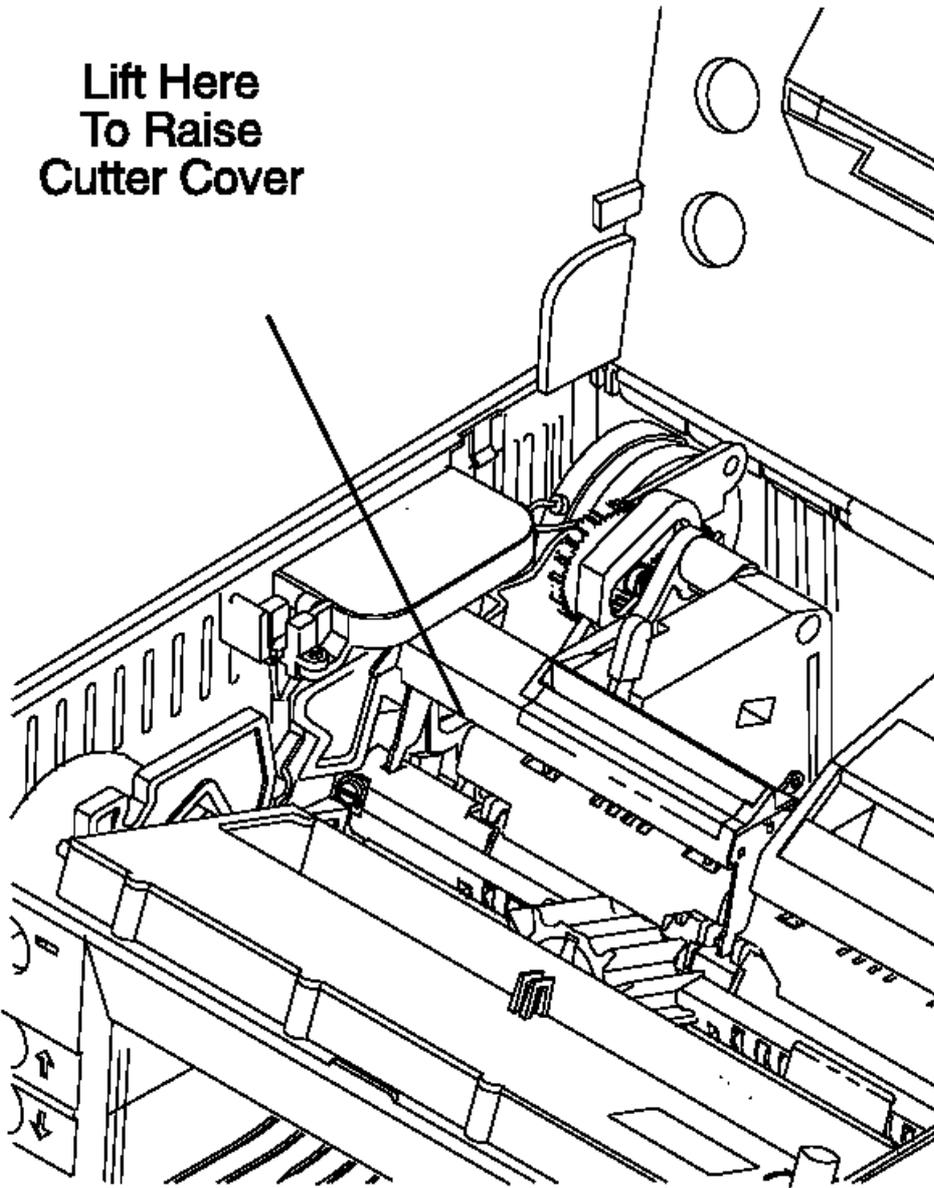

Figure 6-13. Paper Cutter
The paper cutter gears, (1) in Figure 6-13, should move smoothly and the